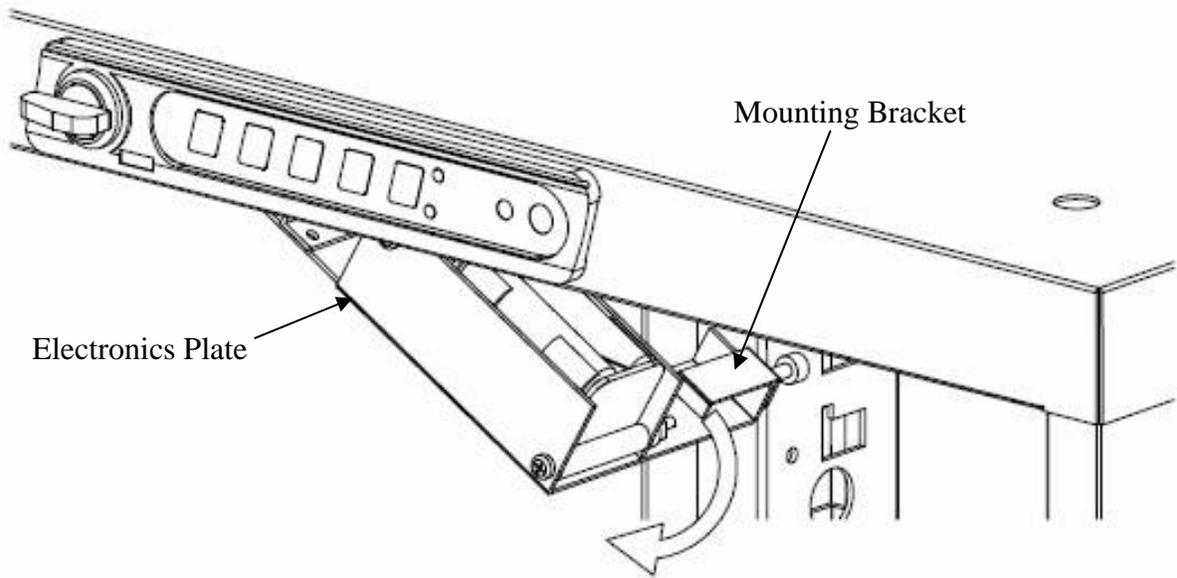

Figure 5
4. Rotate the electronics plate down into the cabinet as shown in Figure 5.